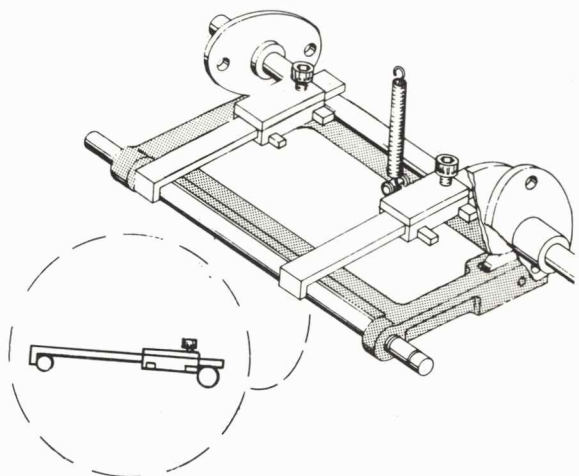

FIGURE 2. Latch Bail Shaft Plate Adjustment
- b. The front to rear position of the bail shaft plate can be set relative to the cycle shaft. Set the Hooverometer to span the distance between the cycle shaft and the left end of the bail shaft as illustrated in Fig. 2. Move the Hooverometer to the right and adjust the bail shaft plate forward or back to the same clearance as at the left side. With the bail shaft parallel to the cycle shaft, the bail rollers should be contacting their respective cams at the same point.